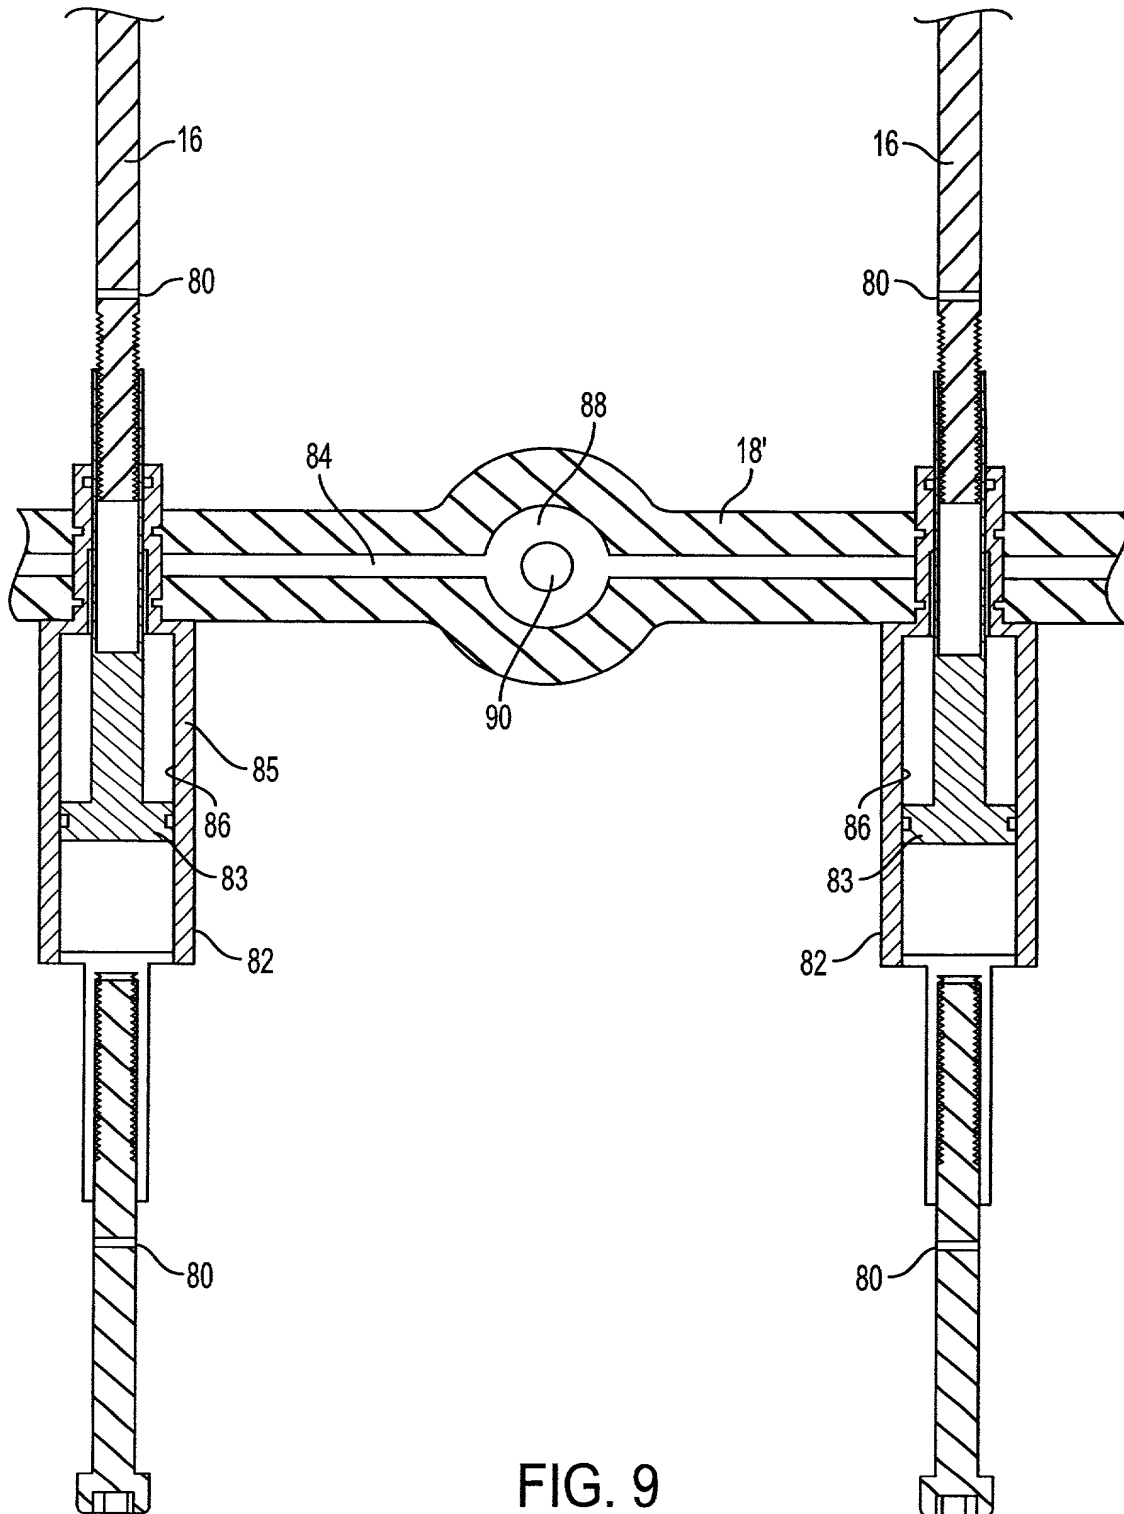

FIG. 9
FIG. 9 is a cross-sectional view of a mechanical assembly, showing a central shaft (18') with a central hub (88) and a central bore (90). The shaft is supported by two bearings (82) and is connected to a central component (84) via a coupling (86). The assembly is mounted on a base (80) and includes a top plate (16) and a bottom plate (80). The central component (84) is connected to a central shaft (18') via a coupling (86). The central shaft (18') is supported by two bearings (82) and is connected to a central component (84) via a coupling (86). The assembly is mounted on a base (80) and includes a top plate (16) and a bottom plate (80).